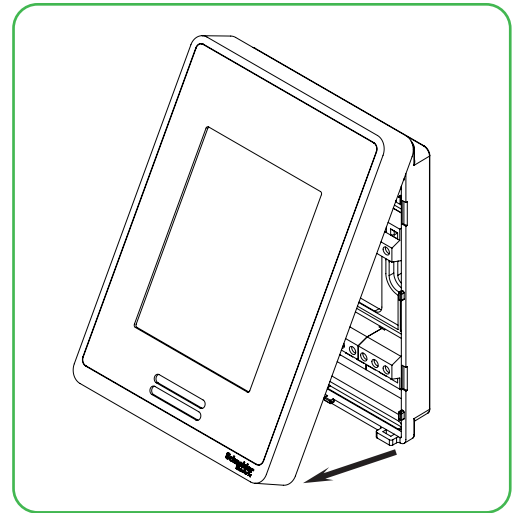

Figure 1 Open the cover
1. Open unit by pulling on bottom side of Room Controller (Figure 1).